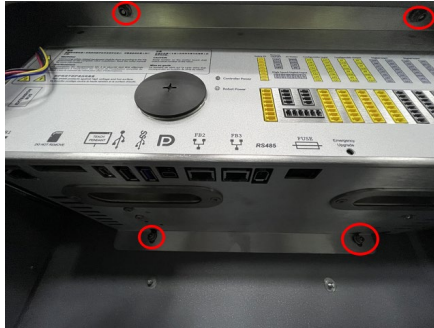

Figure 3-32 Nut position
- Put the mounting sheet metal module back into the box, install the module properly with the 4 hexagonal flange side nylon anti-loosen nuts. Make sure the nuts are tightened well as shown in Figure 3-32: